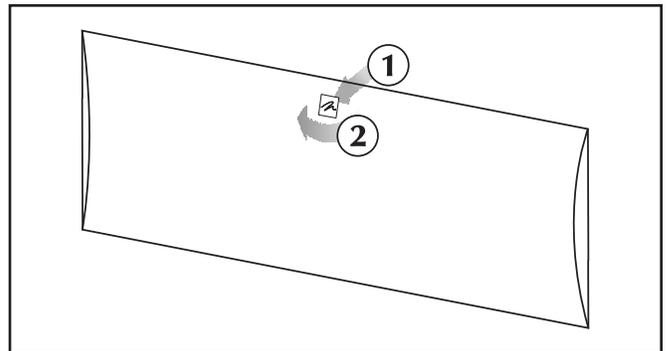

Figure 25. Rotate the Fresco i's logo medallion so it is correctly orientated.
- 13 Rotate the Fresco i's logo medallion, by removing the grill cloth cover, gently pressing the medallion from behind and turning it to the correct orientation (see figure 25).